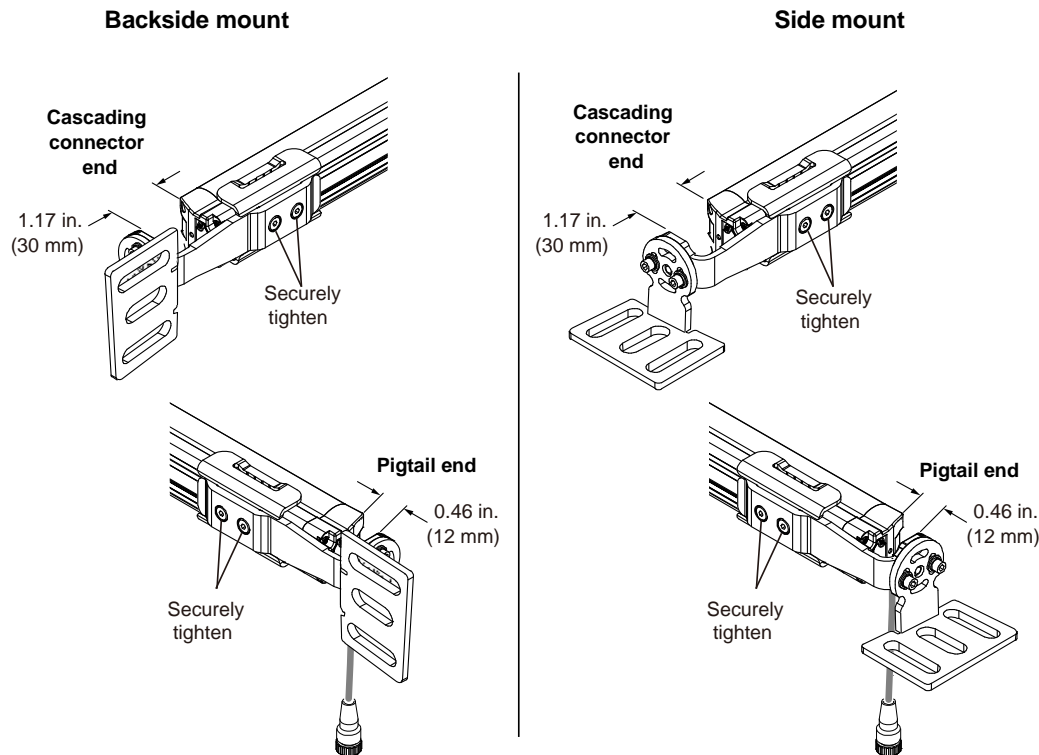

Figure 2-15. Bracket Clearances
2. Slide the standard bracket onto the optic head. Leave the clearances shown in Figure 2-15, above: 0.46 in. (12 mm) on the pigtail end and 1.17 in. (30 mm) on the opposite end.